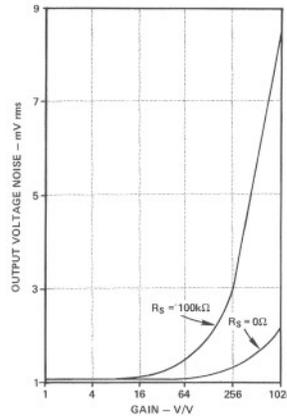

Figure 13. Wideband Output Voltage Noise vs. Gain
**Output Noise:** As one would expect, total output voltage noise increases with gain and frequency. Figure 13 shows the typical wideband (10Hz to 10kHz) output noise performance vs. gain for 0 $\Omega$  and 100k $\Omega$  source resistances.